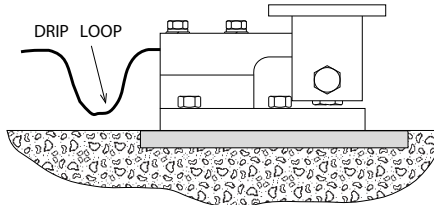

Figure 2-5. Drip Loop Illustration
- Provide a drip loop in all cables so that water or other liquids will not run directly down the cables onto either the load cells or the junction box (see Figure 2-5). Attach load cell cable to the dead structure, not the vessel.